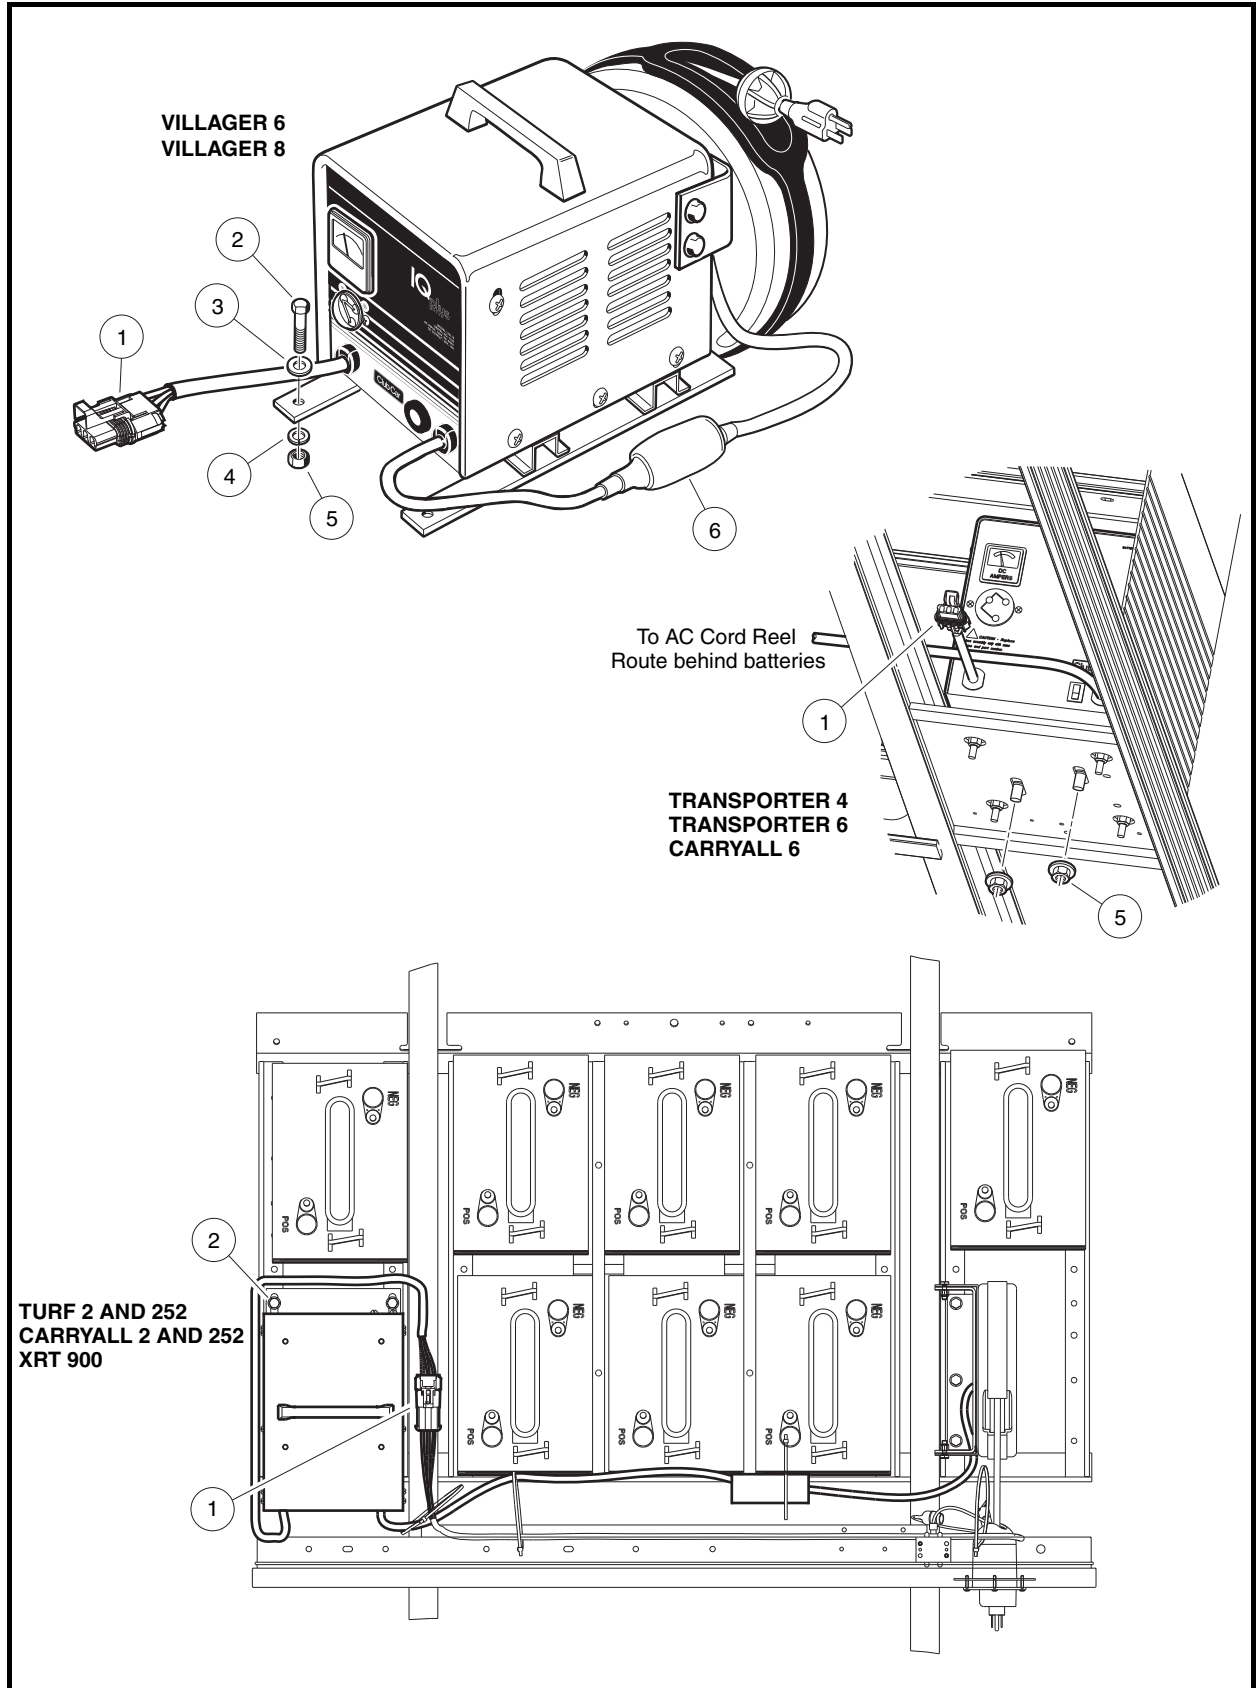

Figure 9-22 Onboard Charger Mounting Details
2. Disconnect the charger DC cord at the three pin connector (1) (Figure 9-22, Page 9-32).
- 2.3. **Carryall 6 and Transporter 4 and 6:** Tighten two nuts (5) to 108 in-lb (12 N·m).
3. **For Carryall 2/252 and 6, Turf 2/252, XRT 900 and Transporter 4 and 6 vehicles:** Place new heatshrink tubing (6) (CC P/N 1017189) over the short AC cord and connect the short AC cord to the retractable cord reel (Figure 9-22, Page 9-32). Slide the tubing over the connection and carefully apply heat to shrink it.